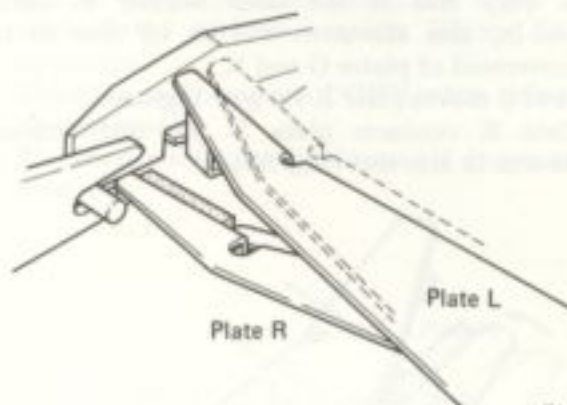

Fig. 22
9. Plate L reaches the specified position, then stops (Fig. 22).